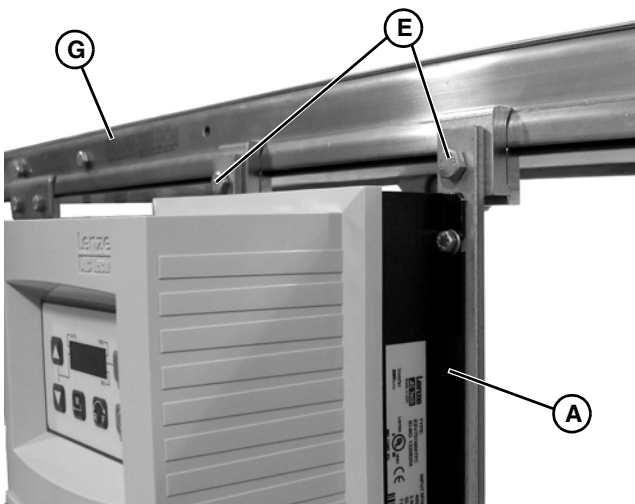

Figure 5
- Attach controller (Figure 5, item A) to conveyor (Figure 5, item G) with screws (Figure 5, item E).
3. Attach controller (Figure 5, item A) to conveyor (Figure 5, item G) with screws (Figure 5, item E).